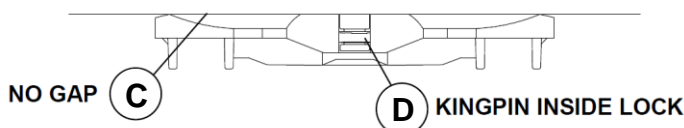

FIGURE 5
- C. There is **NO GAP** between the bolster and the fifth wheel (see figure 5).
- D. The **KINGPIN** is **INSIDE** the **LOCK** (see figure 5).